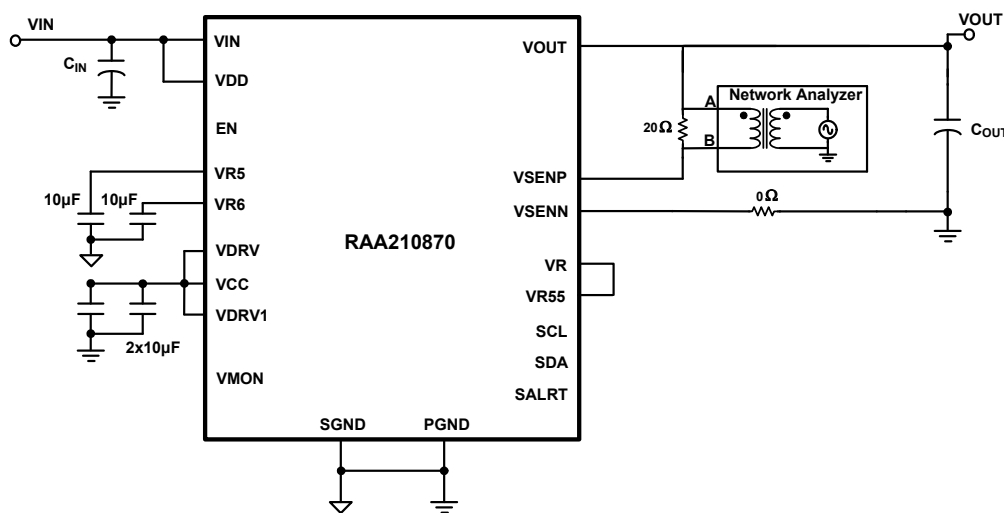

Figure 2. Network Analyzer
- (1) Break the feedback loop by removing the R₁₁ resistor in the remote sense path, connected between VSEN and VOUT.
- (2) Solder a 20 Ω resistor in its place. The value of the resistor could be in the range of 10 Ω to 50 Ω .
- (3) Solder a twisted wire pair to the 20 Ω resistor. Ensure that the wires are short in length. A small twisted pair works well by minimizing noise pickup, which is important for a good measurement.
- (4) Enable the converter.
- (5) Use a “Network Analyzer” to inject a small AC signal (~20mV) across the 20 Ω resistor as shown in Figure 2 on page 7.
- (6) Measure the amplitudes of the signals at points A and B as shown in Figure 2.
- (7) Sweep the frequency using the “Network Analyzer” to observe the bandwidth, phase, and gain margin.